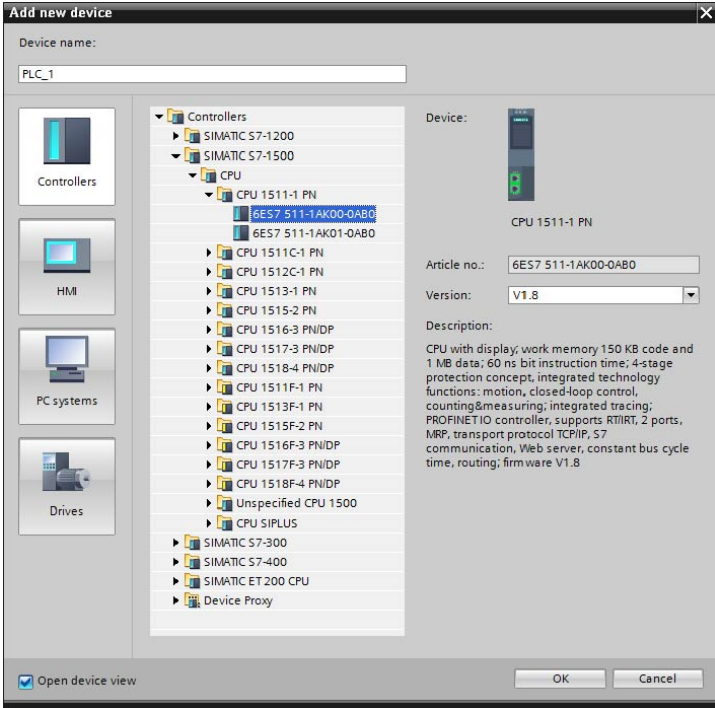
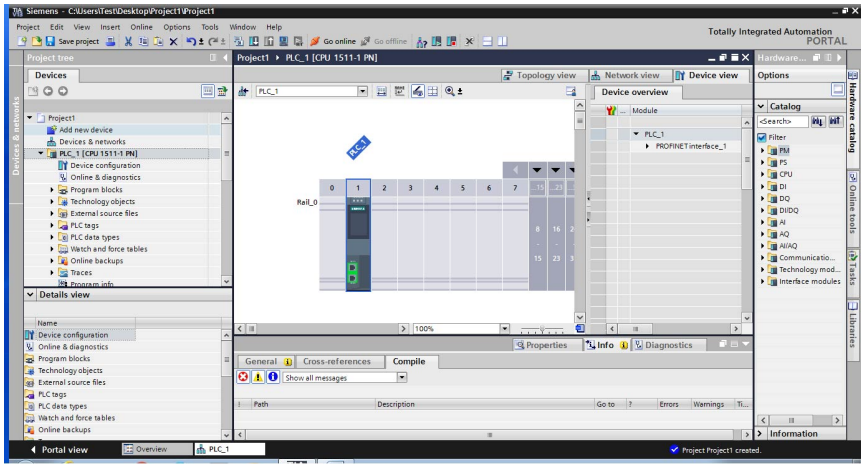

Figure 74. Selecting the PLC in Use
Figure 75. PLC Slot Window
8. Select the Siemens PLC in use and click **OK** (see Figure 74) to display the PLC slot window (see Figure 75).